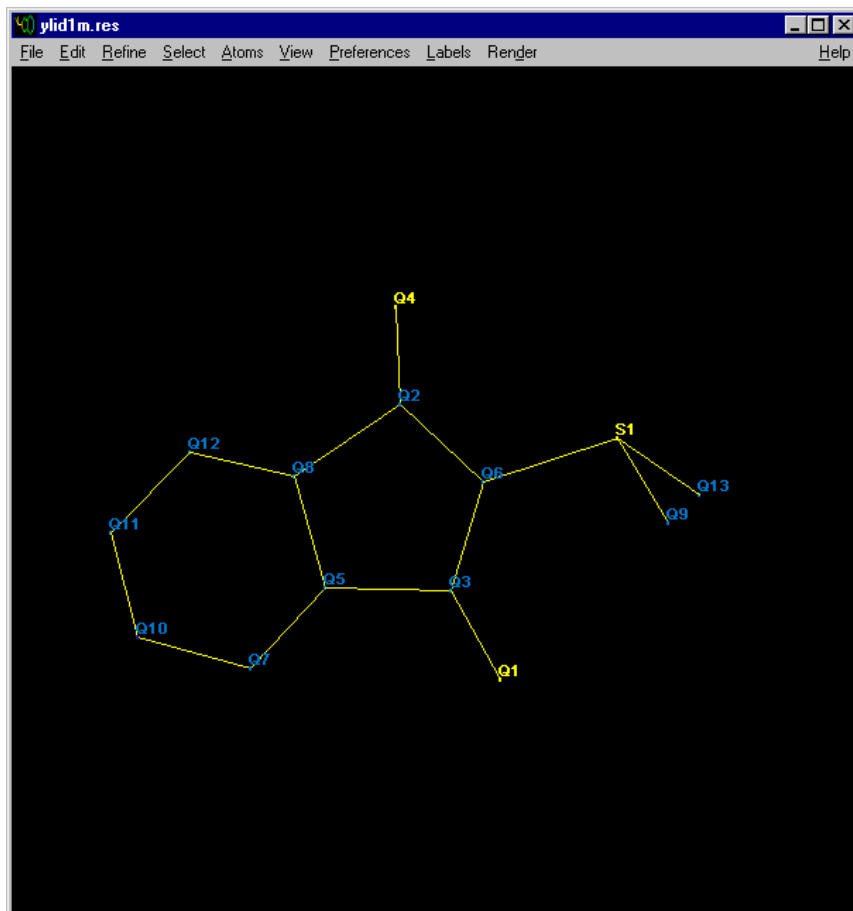

Figure 6-21. Peaks disappear
23. When all false peaks have been selected, click the Kill Selected button in the Select menu. The peaks will disappear (Figure 6-21).